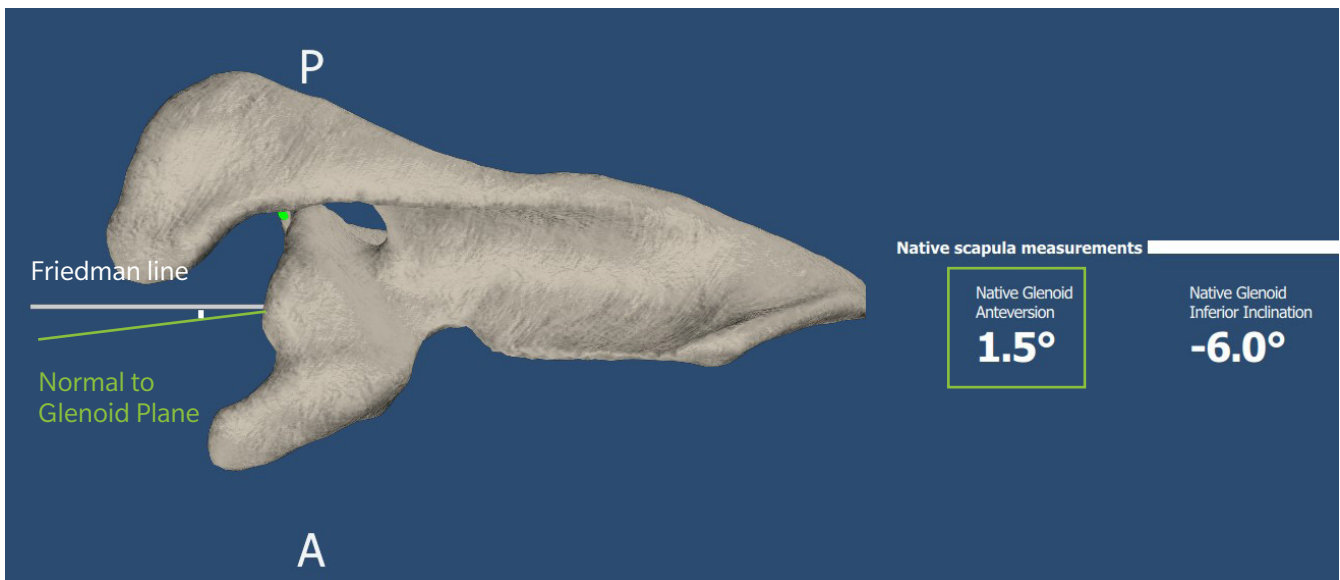

Figure 3 - Native glenoid version
- The native glenoid version is the angle between the Friedman line and the vector normal to the glenoid plane projected onto the transverse plane. (Figure 3)